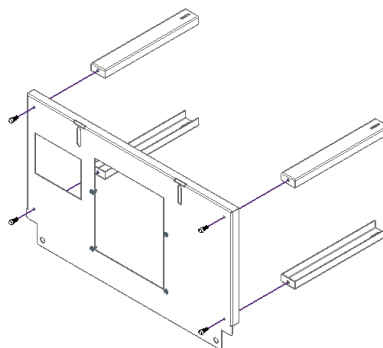

Figure 3 - Auxiliary table assembly
1. Protect the surface on which you are going to work. Join the four legs of the table with four DIN 912 M8x20mm screws as shown in Figure 3, it should be hand-tightened only, to make the rest of the assembly easier to perform.